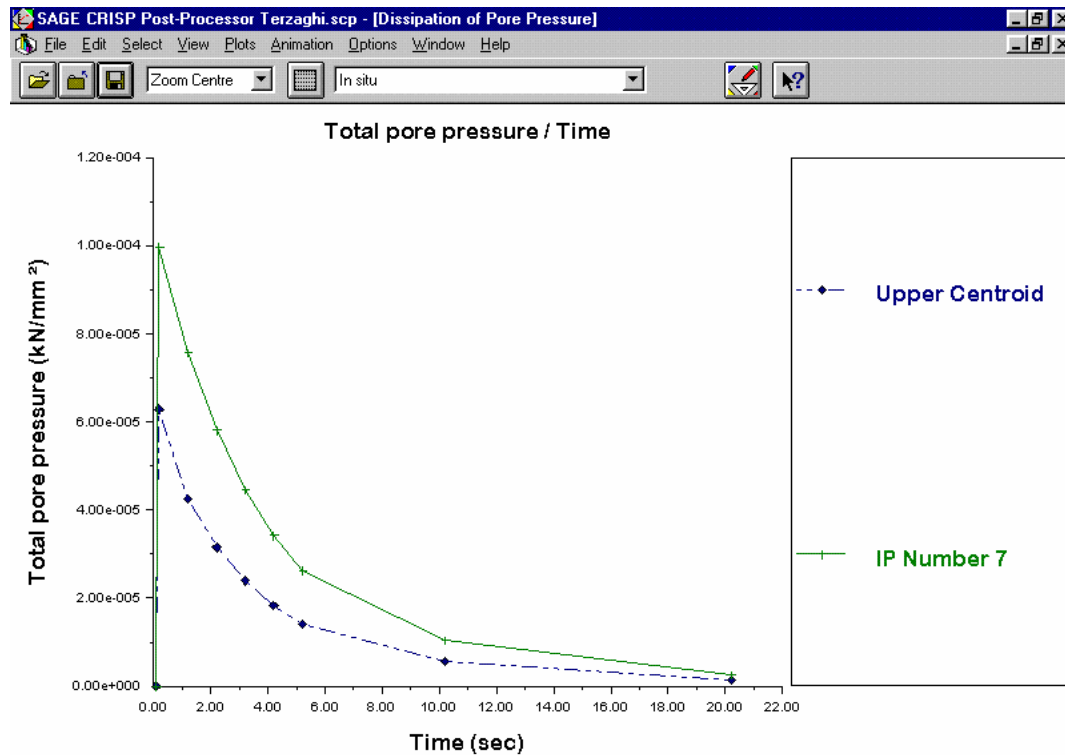

Figure 2-23: Graph Showing the Dissipation of Total Pore Pressure
- Step 8** Click on **OK** to exit once you have finished. The graph displayed should look similar to Figure 2-23.